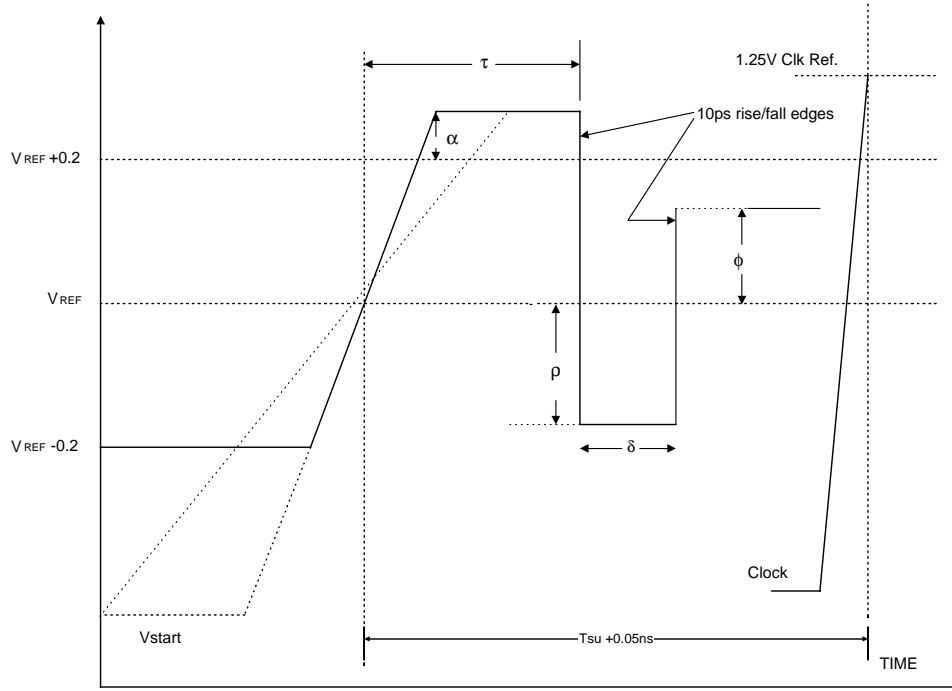

Figure 12: Standard Input Lo-to-Hi Waveform for Characterizing Receiver Ringback Tolerance
1. Specified for an edge rate of 0.8-1.3V/ns. See the *Pentium Pro Family Developer's Manual* for the definition of these terms. See Figures 12 and 13 for the generic waveforms. All values are determined by design/characterization.